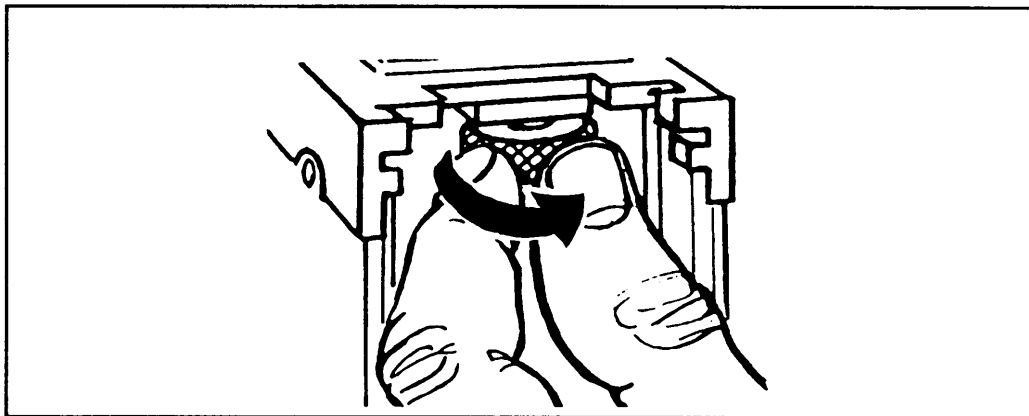

Figure 3-25. Adjusting the timing nut.
(7) Remove the gauge, cock the gun, and return the bolt forward
(8) Insert the fire gauge.
- (9) Remove the backplate.
- (10) Screw the timing adjustment nut all the way down until it touches the trigger lever (Figure 3-25).